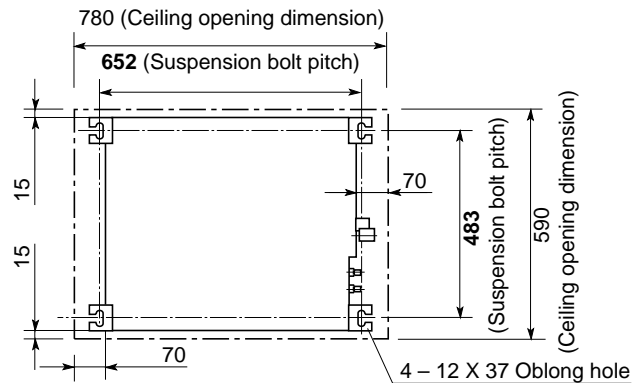
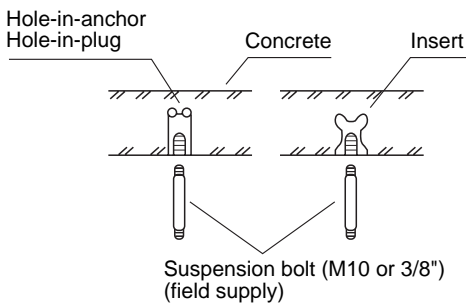

Fig. 3-2
Fig. 3-4
- (2) Follow the diagrams to make the holes in the ceiling. (Figs. 3-2 and 3-3)
- (3) Depending on the ceiling type:
- Insert bolt anchors as shown in Fig. 3-4
- (4) Cut the ceiling material, if necessary (Refer to Figs. 3-2 and 3-3).